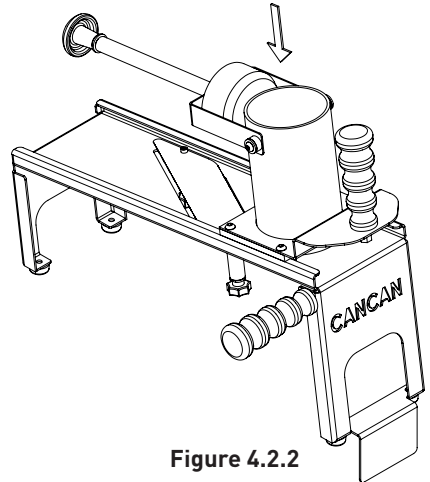

Figure 4.2.2
- Carefully place the vegetable or fruit you will cut into the Chamber. **(Figure 4.2.2)**